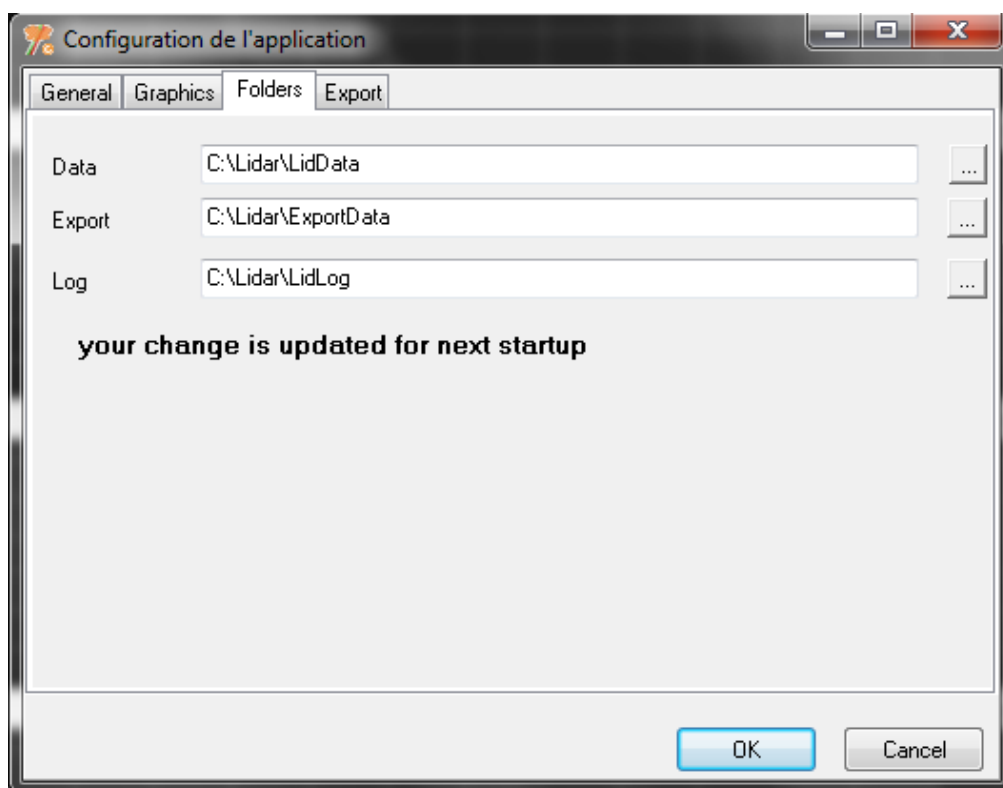

FIGURE 12 : CONFIGURATION, FOLDERS TAB
- "Folders" (Figure 12): The default paths of saved items are entered in this tab. The user can of course change these paths at his convenience.